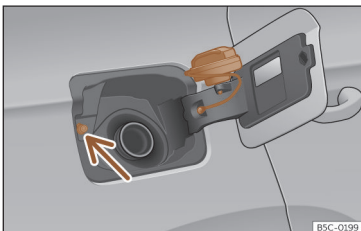

Fig. 200 Fuel tank flap with tank cap attached.
- Place it in the space on the hinge of the open flap >>> Fig. 200.
Avoid touching the fuel tank flap lock button >>> Fig. 200 (arrow). The system will interpret that you have finished and cannot continue refuelling. Press the  button on the driver's door again to continue.